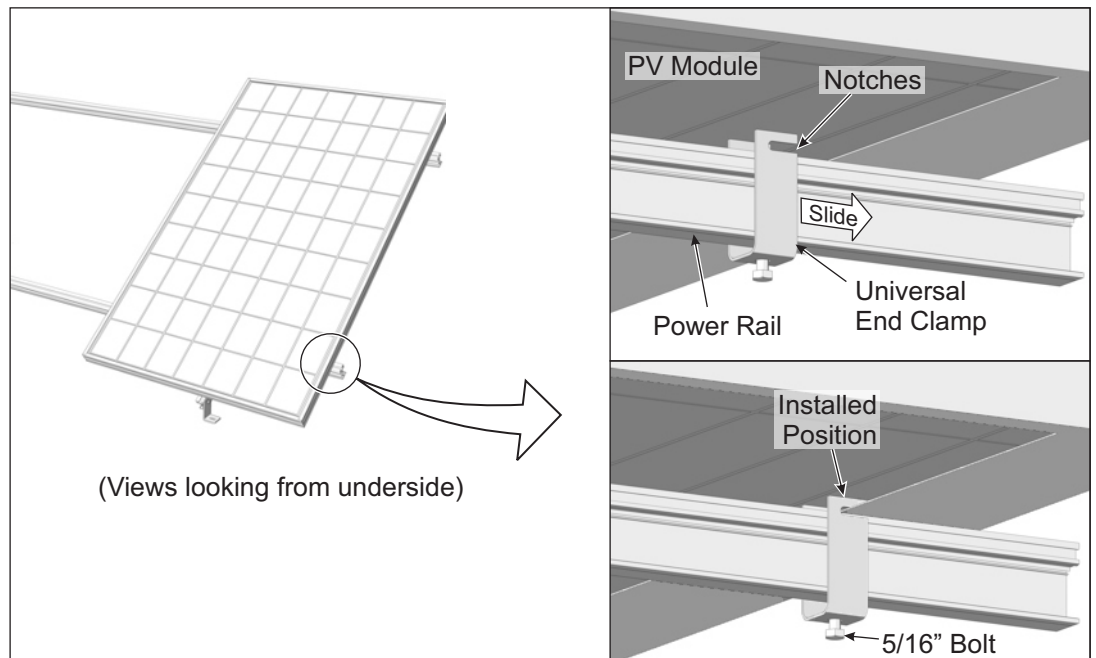

Figure 9-8: Installing PV Modules using Universal End Clamp
- B. Position Universal Clamp underneath the module with notches facing the outside edge of the module, and rail centered between 'forks' of the clamp. Slide clamp notches towards the module flange until the flange bottoms out in the notches. Tighten 5/16" bolt on bottom of universal end clamp. **Torque to 14-16 ft.-lbs.** Repeat for both end clamps. (See Figure 9-8)